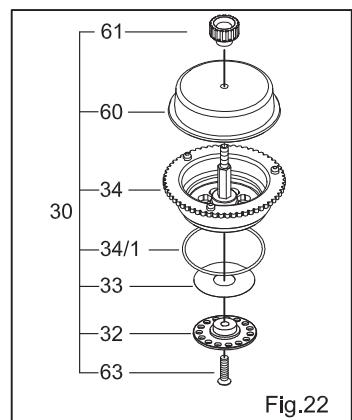

Fig.22
- c) Remove diaphragm (33) in air intake valve (30). Check for any damage and clean. Also clean the valve body (34), the spacer plate (32) and the silencer (60) with a soft cloth. (Fig. 22)